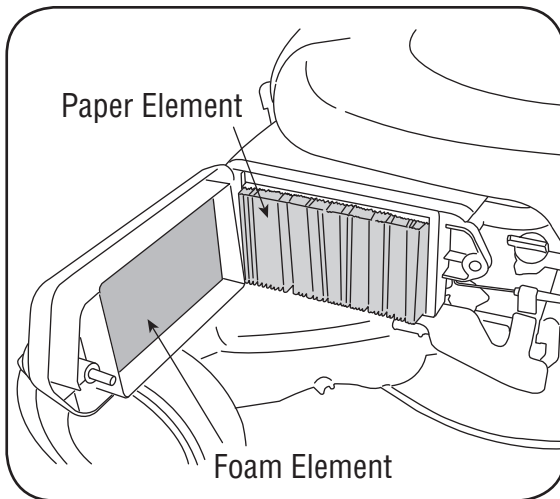

Figure 6
1. Remove the wing bolt and the air cleaner cover. Remove the elements and separate them. See Figure 6. Carefully check both elements for holes or tears and replace if damaged.